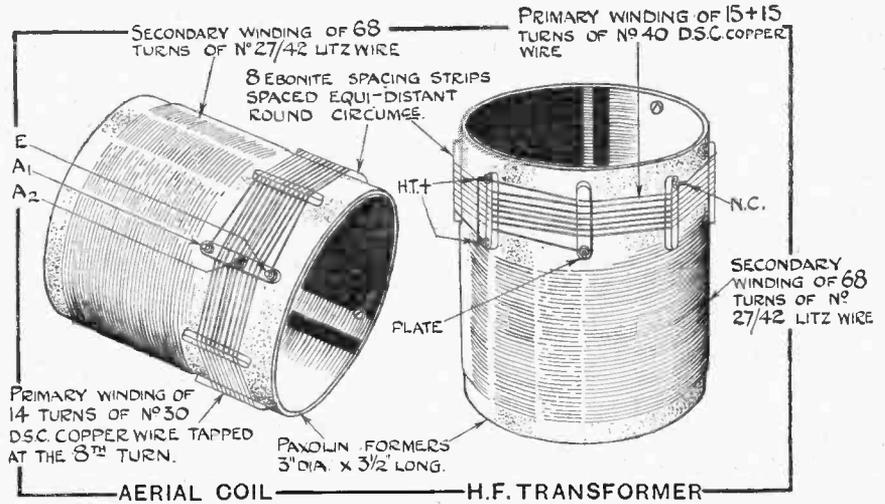
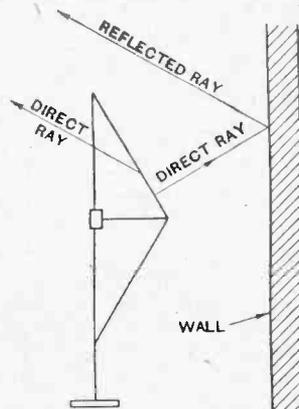
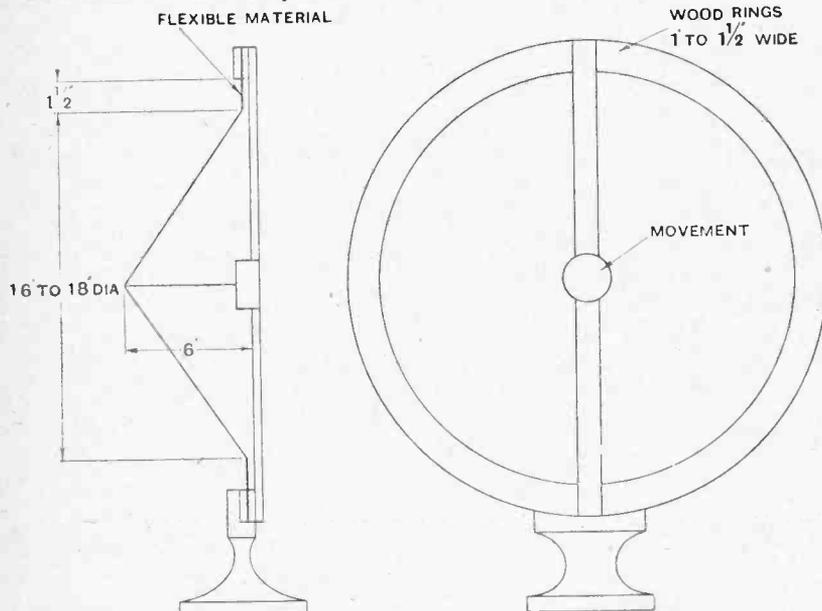
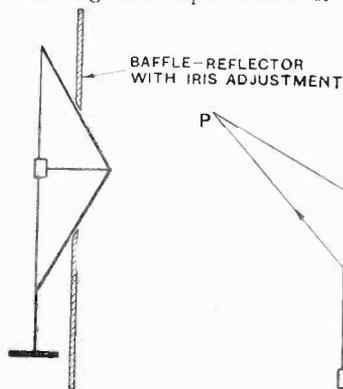

Fig. 2.—Details of the aerial-grid and intervalve high-frequency transformer windings.
Fig. 2.—Direct and reflected waves from cone loud-speaker.
Fig. 1.—Details of experimental loud-speaker.
Fig. 3.— Loud-speaker with adjustable baffle-reflector.
aerial grid transformer had a primary winding of 14 turns tapped on the eighth turn and a secondary of 74 turns of No. 27/42 Litz wire, each of the 27 strands having a single silk covering and the cable a covering of double silk. If this coil is used with a 0.0003 mfd. tuning condenser, the wavelength range is about 220 to above 600 metres, but as there are no broadcast stations operating on so high a wavelength it is better to lower the wavelength a little by removing a few turns from the secondary. In the new design illustrated in Fig. 2 the secondary has 68 turns, and the wavelength is from 200 to 550 metres. The intervalve high-frequency transformer has also been changed a little, the secondary now having 68 turns instead of 74, and the double wound primary
The aerial grid coil lies horizontally in the set, and has a base of wood (drawing F, Fig. 3), 4in. long x 1in. wide x 1/4in. thick, with two ebonite supports 3/8in. diameter. These supports are drilled and tapped 6 B.A. at each end. The coil itself is wound on a Paxolin former 3in. in diameter x 3 1/2in. long, and has 68 turns of 27/42 Litz wire wound with the turns touching, as indicated in Fig. 2, the ends being connected to tags held by screws in the tube. It is only the work of a few moments to remove the insulation from the 27 wires of the cable and to solder them, but when removing the insulation with a piece of fine emery-cloth care must be taken not to break off one of the fine wires.
Fig. 3.—A and B, details of ebonite terminal strips: A, 7/32" diameter; B, 1/8" diameter. C: method of fixing balancing condenser. The upright piece is of ebonite and the two brackets of brass. D: method of fixing grid-bias battery to back of cabinet. E: valve-holder supports. F: base for aerial-grid coil. G: base for intervalve transformer. H: details of ebonite spacers.
cut from a length of ebonite tube 3in. in diameter with $\frac{1}{8}$ in. wall. These are $\frac{1}{4}$ in. wide. One of the spacers has three screws and tags, as shown in drawing H, Fig. 3, and in Fig. 2. A rubber band can be used to hold the spacers in position whilst the first few turns of the primary winding are being put on. No. 30 D.S.C. is used for the primary, and the direction of winding is the same as that of the secondary.
Details of the high-frequency transformer are given in Fig. 2, and details of a base for this will be found in drawing G, Fig. 3. Three of the ebonite spacers are provided with screws; two of them have a single screw at one end, as in drawing H, Fig. 3, while the spacer carrying the positive H.T. connections has two screws. Having wound the secondary, the spacers are put in position and held by rubber bands. The primary winding of No. 40 D.S.C. of 15 turns is then wound in the same direction as the secondary, commencing at the end + H.T. terminal and spacing the turns 15 to the inch. The end of this winding is terminated at the screw marked "plate." Begin the second primary winding at the screw marked NC, and wind this wire in the space between the turns of the primary terminating at the screw marked + H.T. Connect the two screws marked H.T. + with a wire.
minium, details of which will be found in Fig. 4. To the left of the screen is a balancing condenser C₄, mounted on a suitable bracket, as shown in drawing C, Fig. 3. The remainder of the components will be easily identified, L₁ being the plug-in coilholder and T₂ the H.T. transformer. In the original "Everyman's four-valve" receiver the valve-holders were mounted on circular pieces
of wood $\frac{1}{4}$ in. thick, but in this receiver the valve-holders are mounted on short lengths of ebonite rod, as shown in drawing E, Fig. 3. Drawings A and B, Fig. 3, give details of the terminal strips, which are screwed to the back edge of the baseboard. Two brackets are used to hold the panel and baseboard together, the outside edges of the brackets being filed to allow the set to fit its cabinet.
nected, GB₂ being plugged in negative 3 volts and GB₃ to negative 12 volts. This battery, by the way, is fastened to the back of the set above the terminal strip, the method of fixing the battery being shown in drawing D, Fig. 3.
There may be none in the transmission, e.g., violin, piccolo; (2) the loud-speaker may have a weak lower register (most of them do), especially if the diaphragm is small; (3) the amplifier may be cutting off the low tones. If we take an experimental loud-speaker of the form indicated in Fig. 1 and move it towards the wall during the performance of an orchestral piece, as shown in Fig. 2, the lower tones will disappear and the music will sound high-pitched. It will be observed that this instrument has no baffle to isolate the two sides and prevent circulation which reduces the low tones. The diaphragm is large enough to act as a small baffle, although a baffle augments the lower tones nevertheless. Let us imagine that there is a baffle round the supporting ring, and that the hole in the baffle can be reduced at will, after the manner of an iris diaphragm so familiar in the art of photography for altering the camera "stop" (see Fig. 3). As the baffle is moved parallel to itself along the axis of the loud-speaker diaphragm, we can imagine the hole to be closed in order to fit over the diaphragm at all radii. Ultimately, when the baffle has reached the apex of the cone, there is no hole and it has become a reflector. During the intermediate stages it is partly a baffle and partly a reflector, so that the tone can be varied according to the radius at which the board is situated.
A diaphragm loud-speaker of the form illustrated in Fig. 1 has a definite polar curve, the high frequencies being most in evidence when facing the centre of the concave side. As one moves round the loud-speaker the high tones get weaker until they almost vanish, to come up again in lesser degree on the convex side. The influence of the reflector entirely alters the polar curve. The curve is different according as the reflector is at the concave or the convex side. It seems advisable to reiterate a statement made previously, namely: *There must be low tones in the reproduction for the experiments described herein to be successful.* To this we might add that the experimenter must have an ear capable of discriminating between high pitch and low pitch, especially when the line between the two is not particularly marked. Finally, there is the amplifier. With all due respect to the righteous efforts of many experimenters, I have found in too many cases that amplifiers have been the stumbling block. Double transformer amplifiers will not give the desired results, and the proper course to pursue is, either (a) resistance-capacity coupling with mica coupling condensers of 0.1 mfd., or (b) a large choke or resistance coupled detector followed by a high impedance transformer (low ratio) and low-impedance amplifying valve (7,000 ohms).